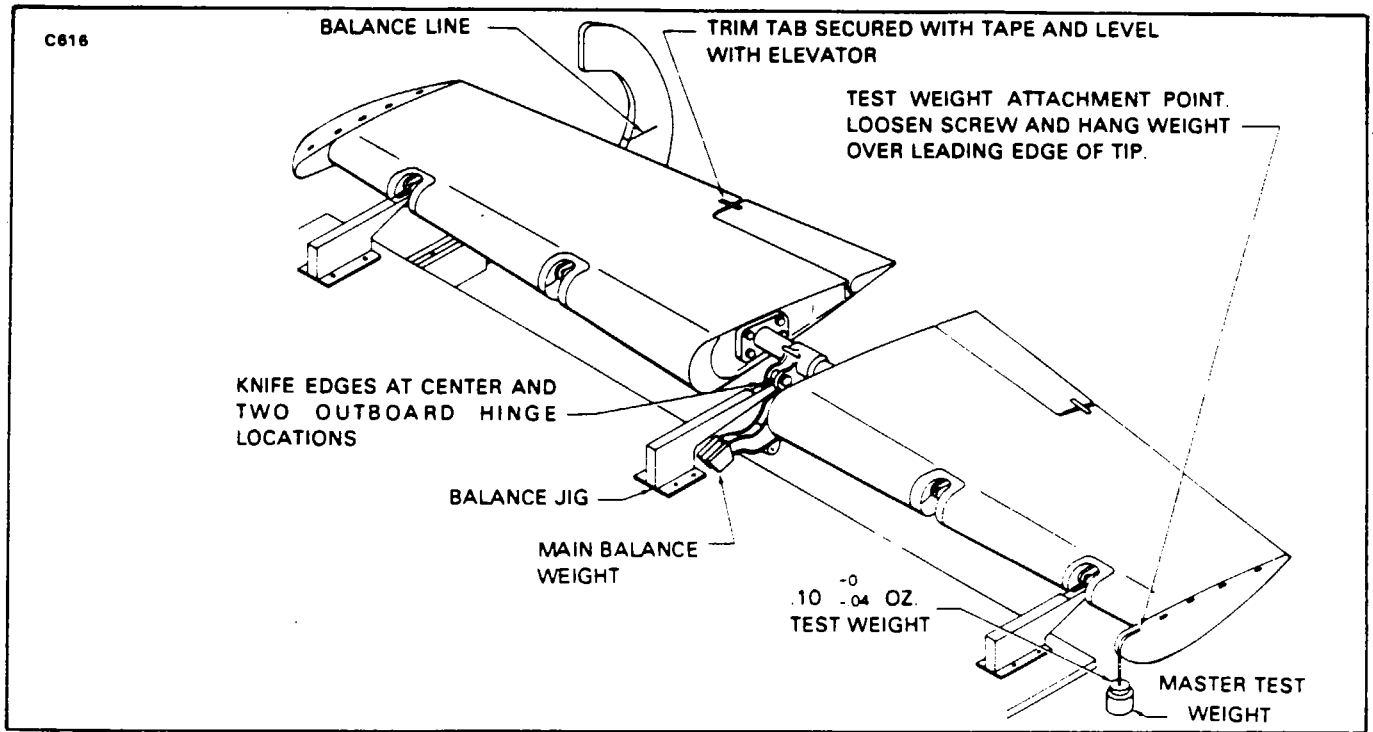

Figure 55-2. Elevator Balancing
ELEVATOR BALANCING PROCEDURE. (Refer to Figure 55-2.)
4. Hang the fabricated master test weight over the elevator counterbalance assembly as shown in Figure 55-2. Check the master test weight arm location as shown on Figure 55-2 and specified in Chart 5501.